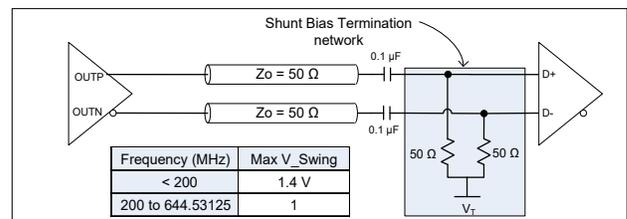
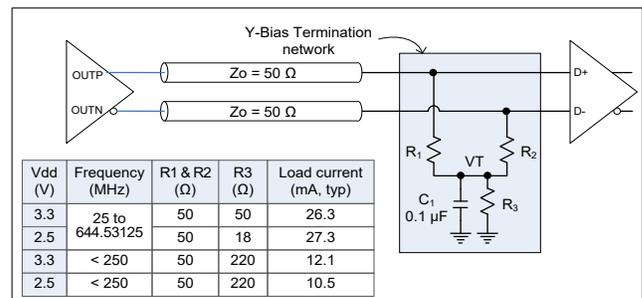

Figure 28. Recommended FlexSwing Termination when AC-coupled
Figure 30. LVPECL and FlexSwing with Y-Bias Termination
- 14. Table based on Y-Bias Termination with R3 = 220. See Figure 30. Using different R3 value changes the VHn and VLn value.
The SiT9505 FlexSwing output drivers support low power without sacrificing signal integrity via simple terminations as shown in Figure 28 and Figure 30, compared to traditional LVPECL drivers. The FlexSwing and LVPECL outputs are